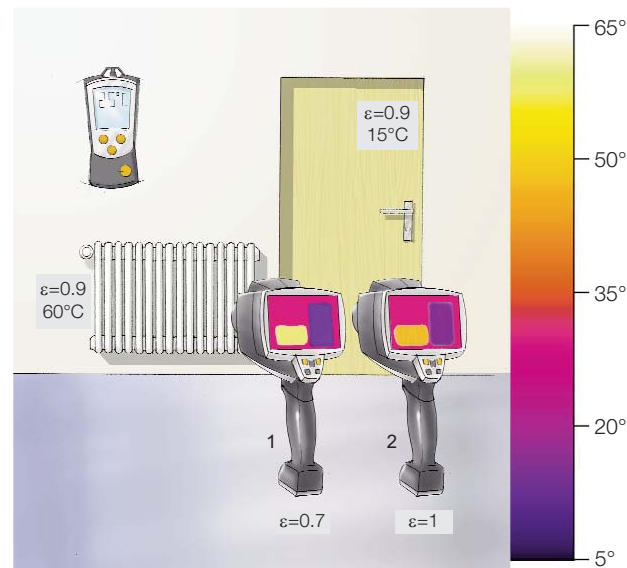

Figure 1.2: Effects of an incorrect emissivity setting on the temperature measurement
1. Where the temperature of the measuring object is higher than the ambient temperature (cf. heater shown in Fig. 1.2, p.11):
2. Where the temperature of the measuring object is lower than the ambient temperature (cf. door shown in Fig. 1.2, p.11):
An accurate setting of the emissivity is particularly important where there is a large difference in temperature between the measuring object and the measuring environment (cf. Fig. 1.2, p. 11).